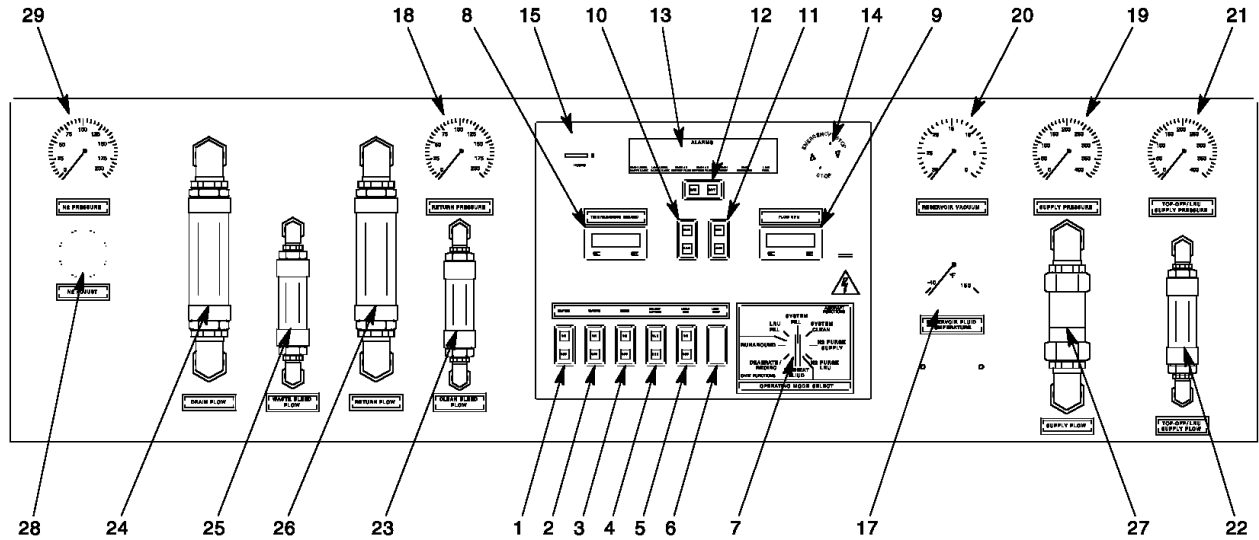

FIGURE 4 - Control Panel Controls and Indicators
6.5 CONTROLS AND INDICATORS (FIGURES 4 - 7)